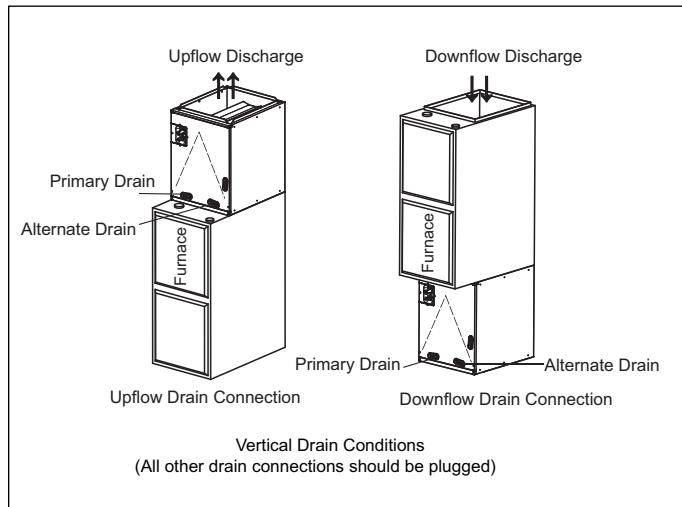

Figure 6
1. See Fig. 6 & 7 for coil installation and drain connection.
See Figure 6 & 7. In case that coil and furnace sizes are not matched, use proper size of sheet metal or other material to fill the gap and seal the gap to prevent air leak